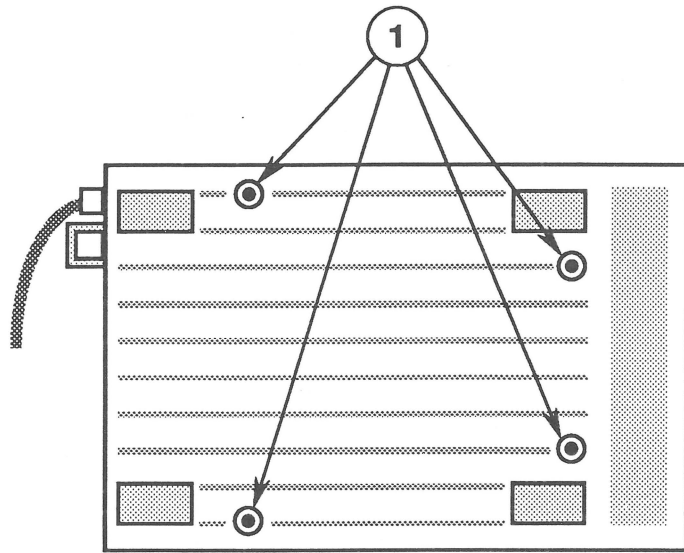

FIGURE 8
8. Replace the four screws (Figure 8, #1) in the case bottom.